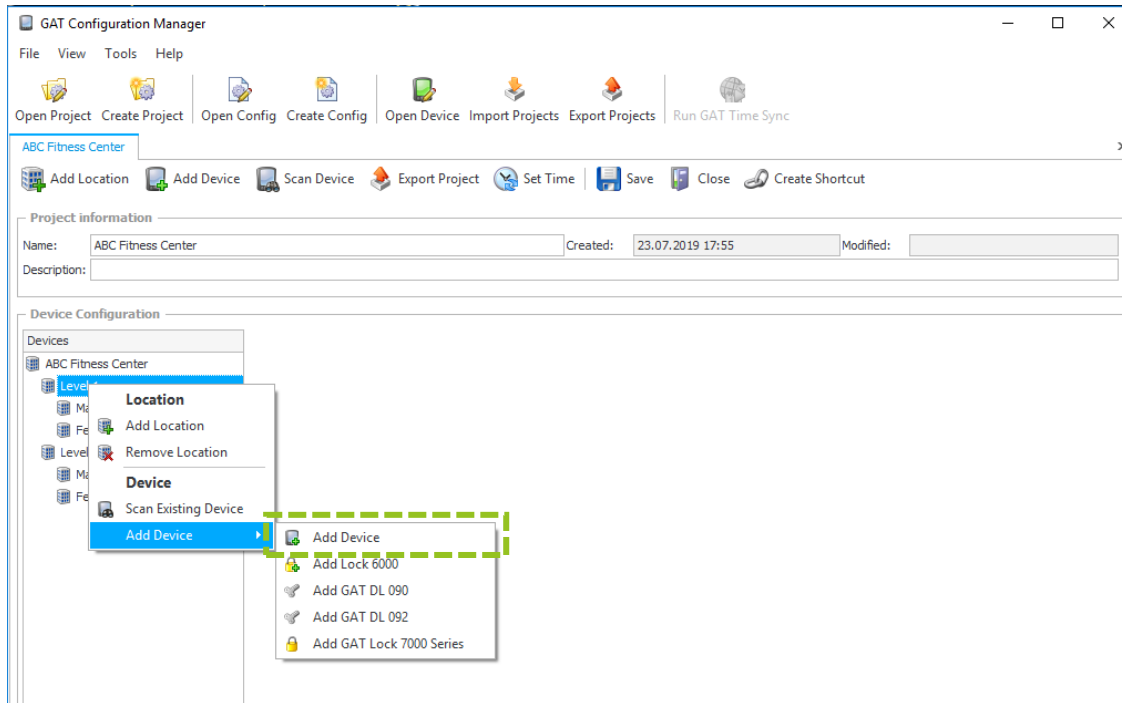

Figure 3.4 – GAT Config Manager – Adding a GAT NET.Controller S
- To add a GAT NET.Controller S with connected GAT NET.Lock to a location, right-click on the location and select “Add Device” from the menu (Figure 3.4).